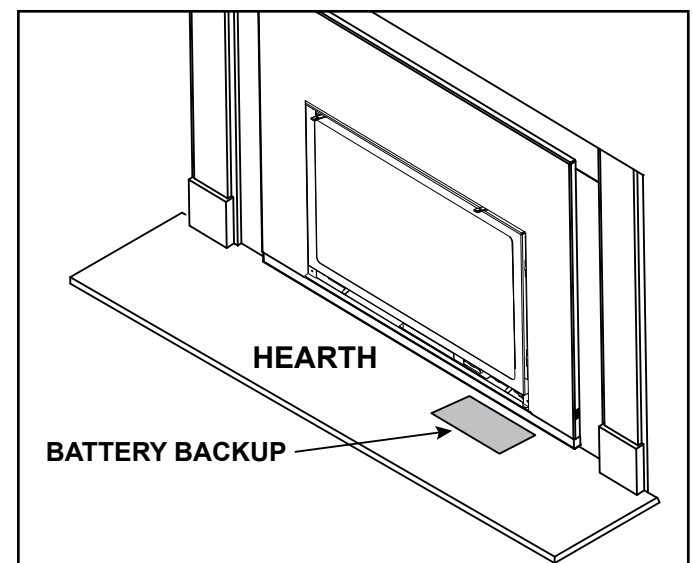

Figure 3.9
6. Place the battery backup power source away from any heat source and hot surface to the extent possible. Excessive heat will reduce the battery life. See Figure 3.9.